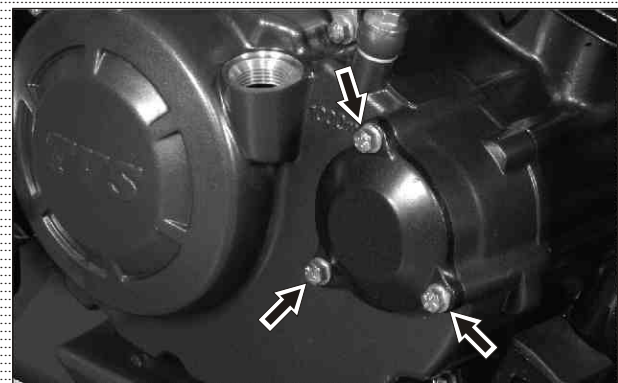

Fig. 2.37
- Loosen and remove hexagonal flange bolts (M6x65 - 2 nos. and M6x16 - 1 no.). (Fig. 2.37)